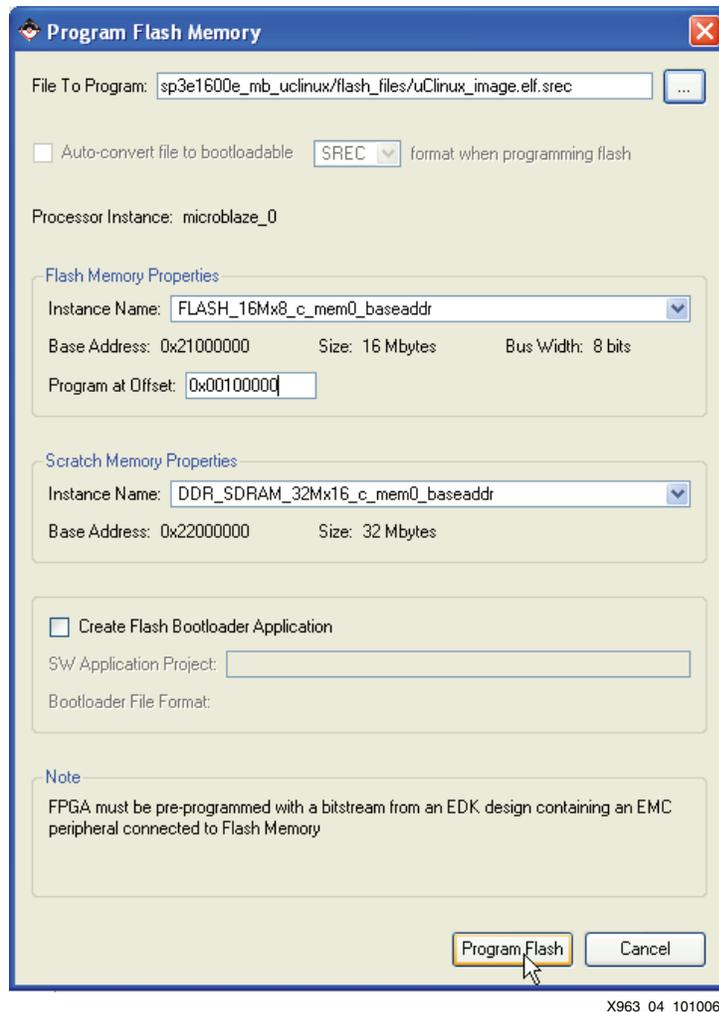

Figure 4: Program Flash Memory Dialog Box for an SREC File
- In the Program Flash Memory dialog box, choose the file to program to be the provided SREC file. For the  $\mu$ Clinux image SREC file, change the program offset to  $0x00100000$ . For the Web server application SREC file, change the program offset to  $0x00700000$ . These program offsets are the addresses where the provided bootloaders are programmed to find the SREC files. The Program Flash Memory settings are shown in Figure 4.